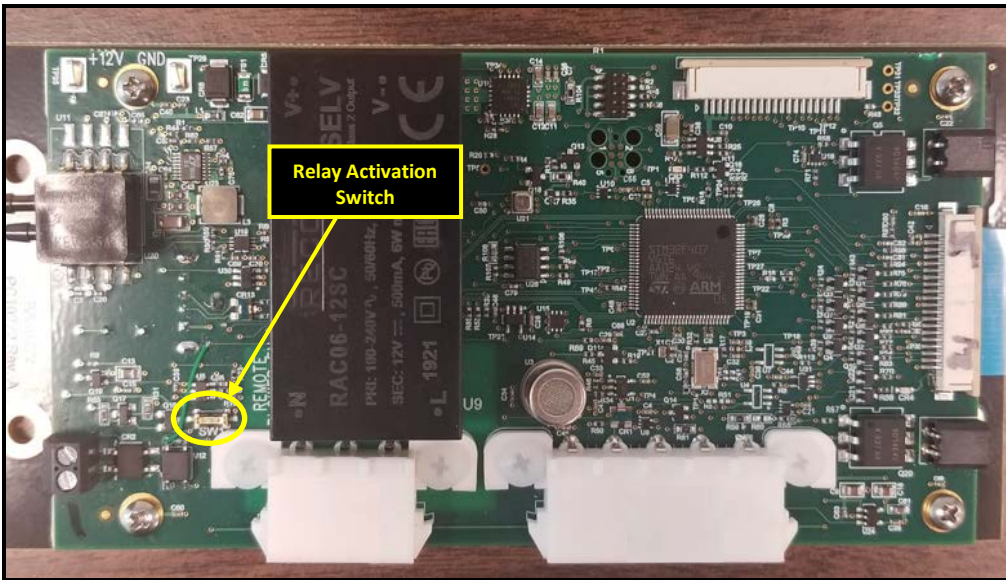

Figure 2
3. Locate relay activation switch on the rear of the control panel as shown in Figure 2.
4. Flip the Relay Activation Switch to the "OFF" position as indicated in Figure 2.